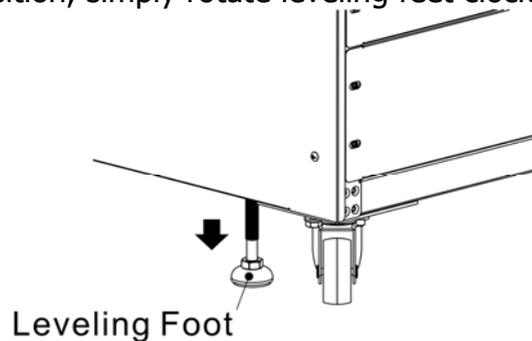

Figure 2-4
4. To fix the cabinet in position, simply rotate leveling feet clockwise. Refer to Figure 2-4.